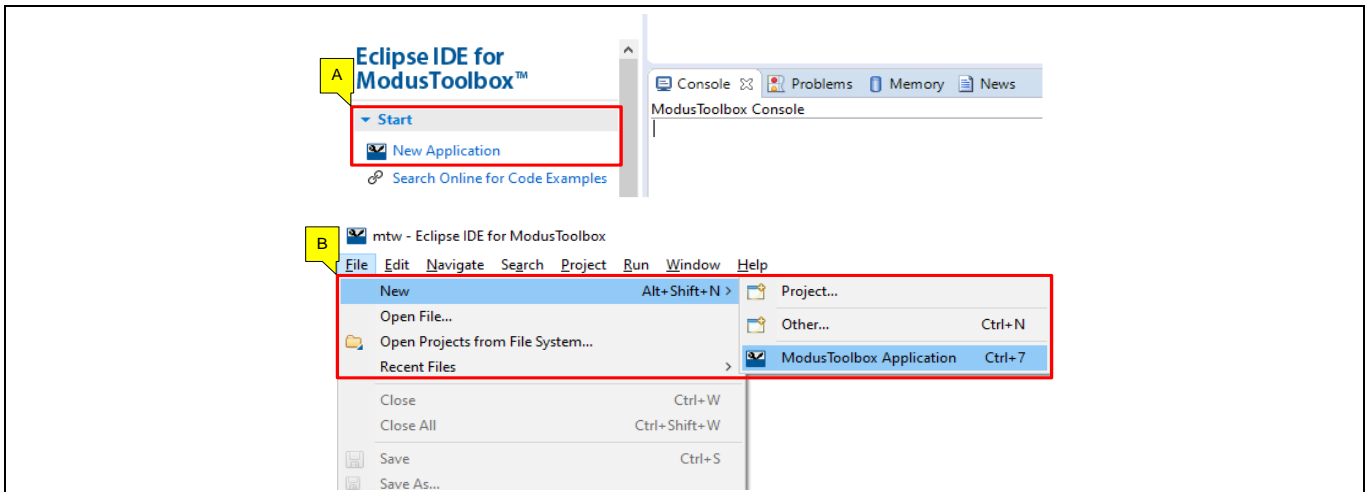

Figure 7 Create a New ModusToolbox Application
- Alternatively, you can choose File > New > ModusToolbox Application, as **Figure 7** shows. The Eclipse IDE for ModusToolbox Application window appears.